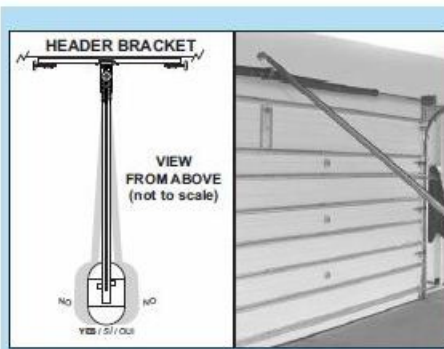

FIG. 2-4 Position assembly and align.
- Position assembled rail on wall next to header bracket (Fig. 2-4).
NOTE: Before final attachment to ceiling, insure that assembly is in proper alignment (Fig. 2-4).